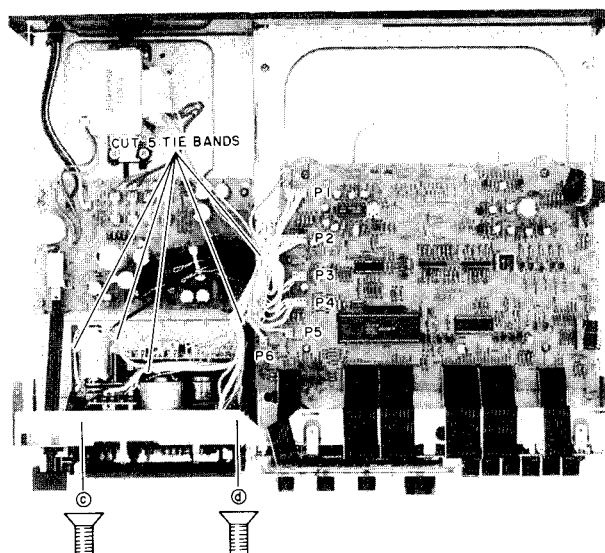

Fig. 4-4
- 2) Remove the six connectors P1—P6 from the SYS-CON PCB. Remove mechanism block securing screws ③ and ④. (See Fig. 4-4.)